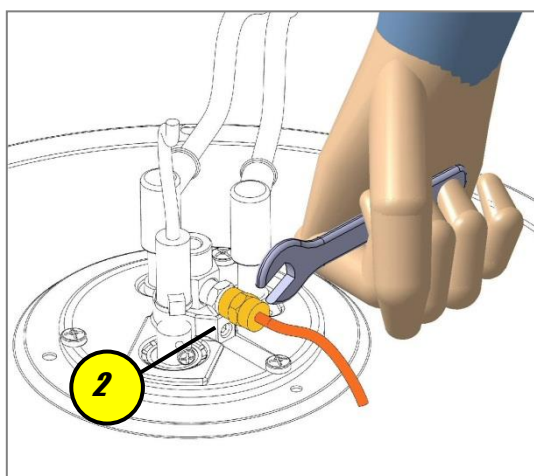

Figure 15
- b.** Disconnect the fuel hose 20 (fig. 15) using a M10 wrench.